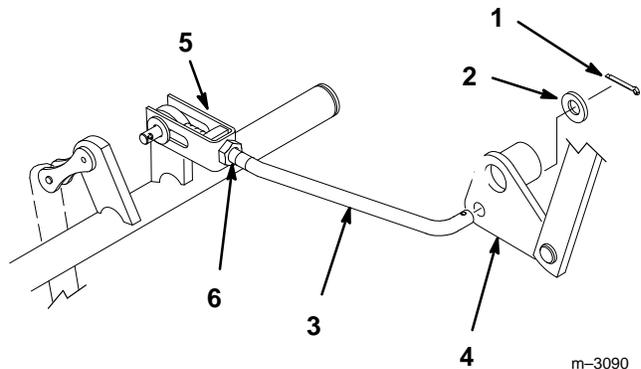

Figure 29
The brake lever is on top of the transaxles (Fig. 29). If the parking brake does not hold securely, an adjustment is required.
3. To adjust the brake remove the cotter pin, and washer from the brake rod (Fig. 29).
4. Rotate rod, one turn at a time, and install onto brake plate (Fig. 29). Tighten jam nut securely.